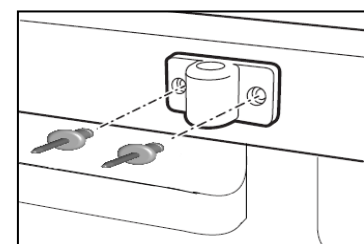

Figure 5
- d) Attach the bar bracket by placing a 4mm rivet through each hole (160mm & 193mm) of the bracket and into the centre holes in the rail. (See Figure 5)